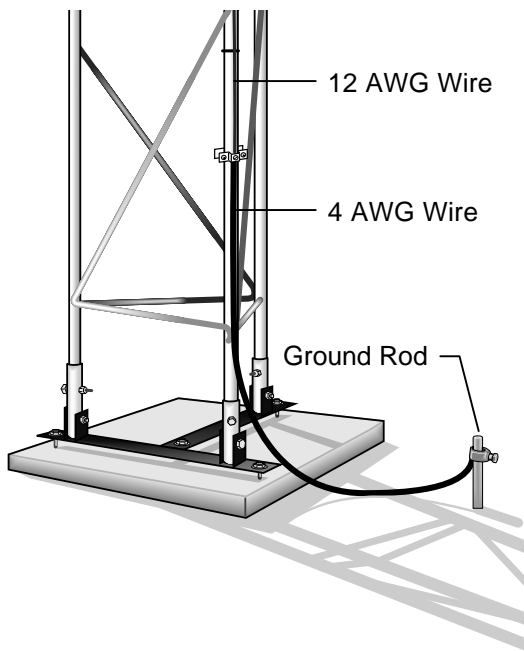

FIGURE 2.1-5. Tower Grounding
2. Loosen the bolt that attaches the clamp to the ground rod. Insert one end of the 4 AWG wire between the rod and the clamp and tighten the bolt (Figure 2.1-5).
3. Attach the tower grounding clamp to a tower leg (Figure 2.1-5). Route the 4 AWG wire attached to the ground rod up the tower leg to the grounding clamp. Loosen the set screw and insert the 4 AWG wire and the 24 AWG enclosure ground wire into the hole behind the screw and tighten the screw. Route the green wire to where the enclosure will be installed.